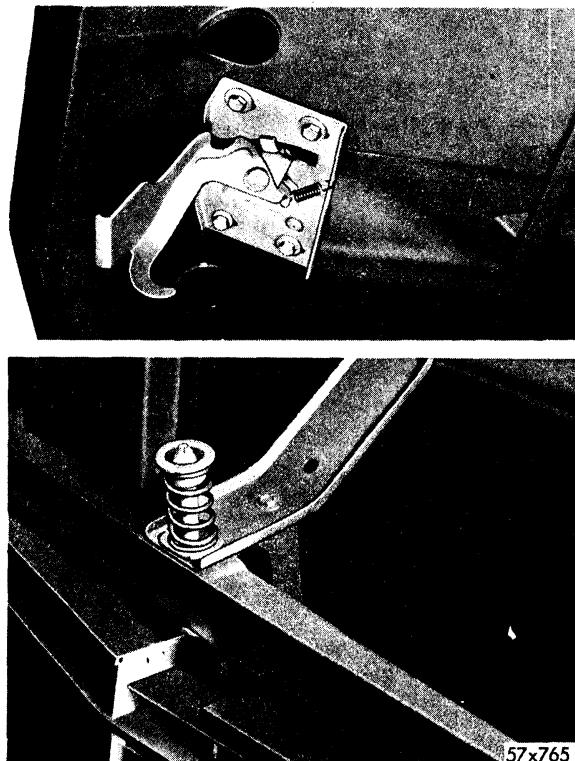

Fig. 11—Hood Striker Plate Adjustment
**Adjustment of Hood Striker and Lock Assembly (Fig. 11)**—The hood striker is mounted on a plate which is attached to the underside of hood. The bolt holes in plate are elongated to allow striker to be adjusted fore-and-aft. The hood lock plate is fastened by five bolts, in slightly oversized holes, which will allow lock plate to be shifted slightly in any direction. The striker stud and spring assembly is located on outer panel and is adjustable. To adjust striker (to lengthen or shorten), loosen lock nut, turn striker in or out with screwdriver until correct adjustment has been obtained. After making any adjustment that requires shifting of hood or fender, always check hood striker for proper length, and lock plate assembly for alignment.